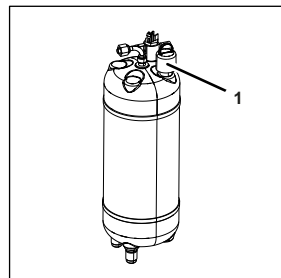

Figure 30
1. Open the drain valve (Figure 30/1) of the carbonator tank until liquid starts coming out of the drain valve (Figure 30/1).